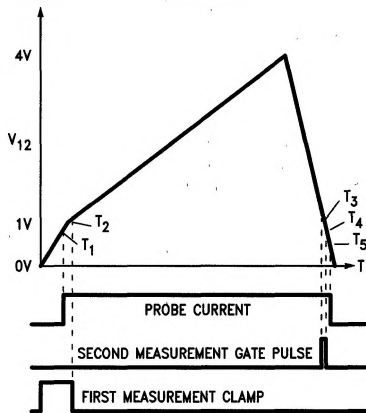

FIGURE 5
**Note 6:** Probe 1 amplifier tests are measured with pin 12 ramp voltage held between the  $T_3$  and  $T_4$  conditions (pin 12  $\approx 1.1V$ ) having previously been held above 4.1V to simulate ramp action. See Figure 5.
These probes require measurements to be made of their resistance before and after power has been dissipated in them. With a probe connected as probe 1 in the connection diagram the LM1042 will start a measurement when pin 8 is taken to a logic low level ( $V_B < 0.5V$ ) and the internal time-base ramp generator will start to generate the waveform shown in *Figure 5*. At  $0.7V$ ,  $T_1$ , the probe current drive is switched on supplying a constant  $200\text{ mA}$  via the external PNP transistor and the probe failure circuit is enabled. At  $1V$  pin 1 is unclamped and  $C_T$  stores the probe voltage corresponding to this time,  $T_2$ . The ramp charge rate is now reduced as  $C_T$  charges toward  $4V$ . As the  $4.1V$  threshold is passed a current sink is enabled and  $C_T$  now discharges. Between  $1.3V$  and  $1.0V$ ,  $T_3$  and  $T_4$ , the amplified pin 1 voltage, representing the change in probe voltage since  $T_2$  (and as the current is constant this is proportional to the resistance change) is gated onto the memory capacitor at pin 14. At  $0.7V$ ,  $T_5$ , the probe current is switched off and the measurement cycle is complete. In the event of a faulty probe being detected the memory capacitor is connected to the regulated supply during the gate period. The device leakage at pin 14 is a maximum of  $2\text{ nA}$  to give a long memory retention time. The voltage present on pin 14 is amplified by 1.2 to drive pin 16 with a low impedance,  $\pm 10\text{ mA}$  capability, between  $0.5V$  and  $4.7V$ . A new measurement can only be started by taking pin 8 to a low level again or by means of the repeat oscillator.